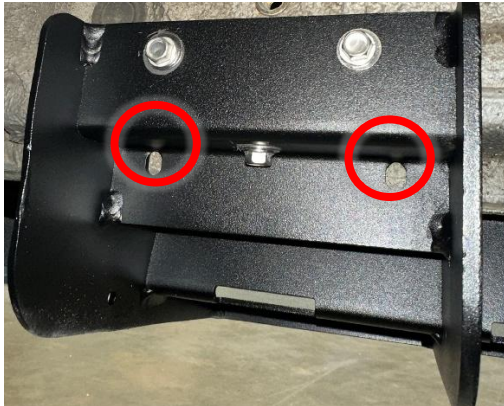

Figure 4: Marking Pinch Weld for Drilling
4. Mark the backside of the pinch weld on the van using the pre-cut holes on the step bracket as a template (Figure 4). Use a center punch to center the drilled hole in the slotted hole of the bracket. Drill through pinch weld using a 1/4" drill.